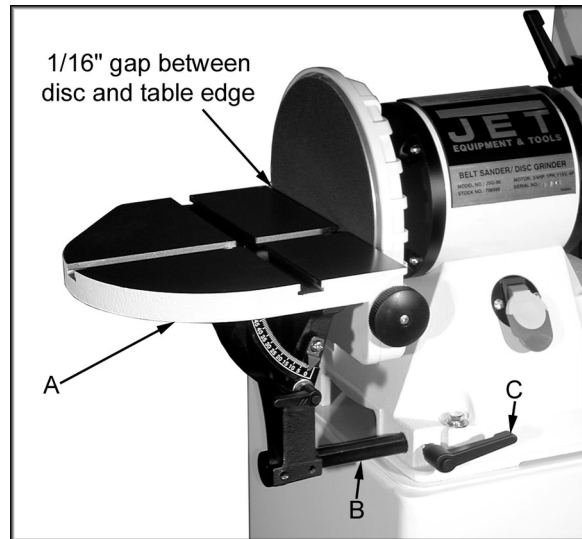

Figure 1
2. Mount the sanding disc table assembly (A, Fig. 1) to the sander base. Insert the rod (B, Fig. 1) into the base and secure in place using the 5/16" handle (C, Fig. 1). The handle should tighten against the flat portion of the rod.